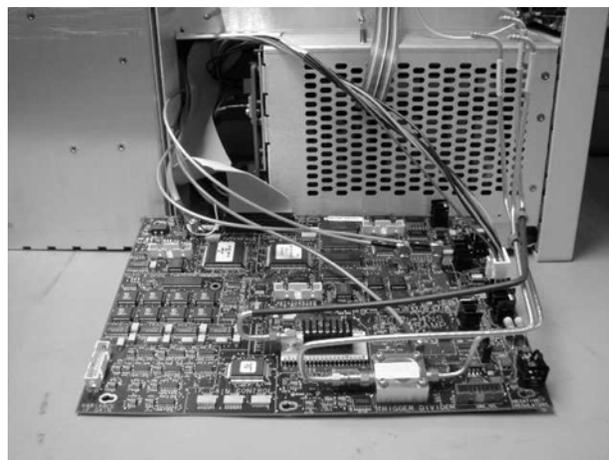

Figure 7-66. Removing the A13 Acquisition Board
- 6 Remove the board, as shown in Figure 7-66.